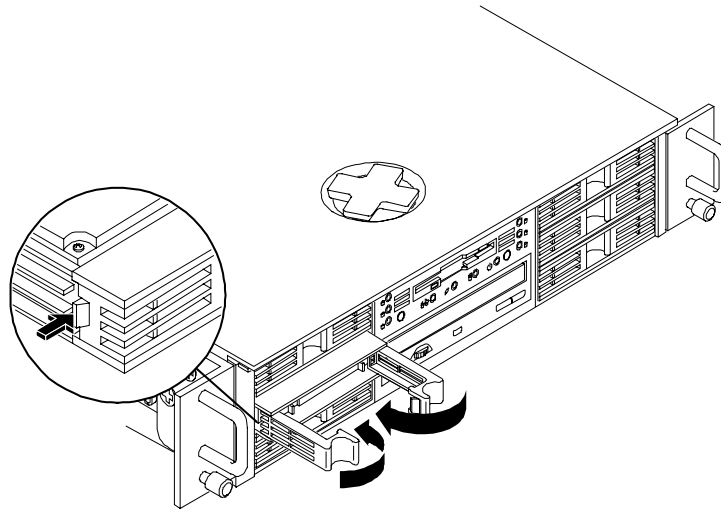

Figure 3-4. Closing Drive Ejector Arms
4. Make sure the drive is pushed in completely. Close the ejector arms and press them in until the latch clicks into place. See Figure 3-4.